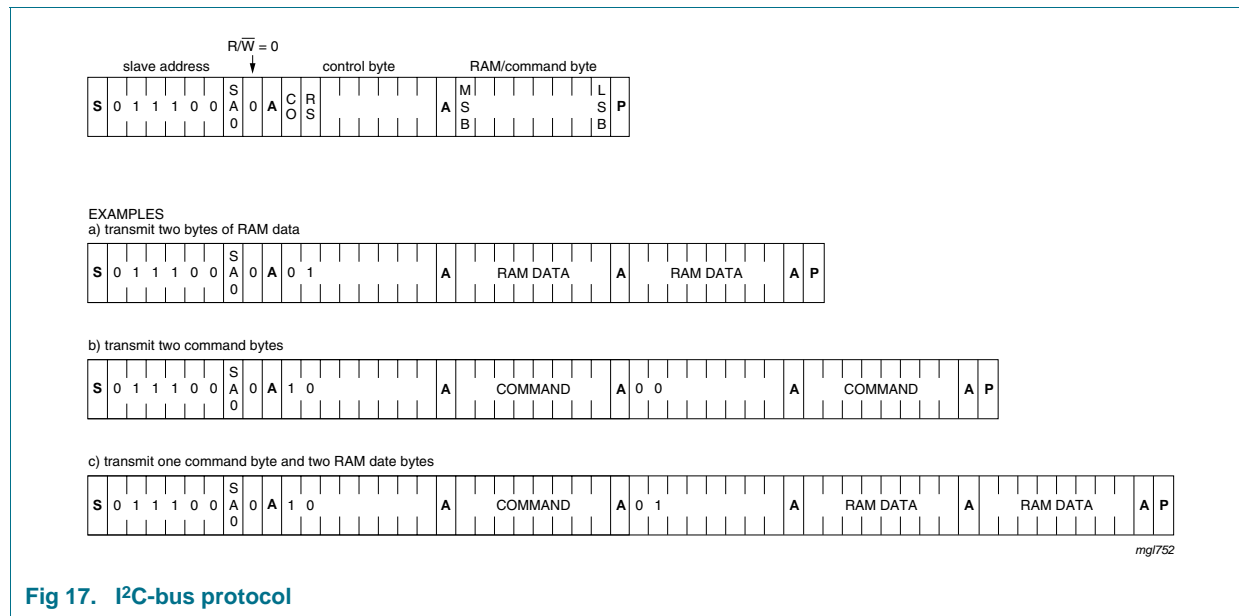

Fig 17. I²C-bus protocol
The I²C-bus protocol is shown in Figure 17. The sequence is initiated with a START condition (S) from the I²C-bus master which is followed by one of two possible PCA85232 slave addresses available. All PCA85232 with the corresponding SA0 level acknowledge in parallel to the slave address, but all PCA85232 with the alternative SA0 level ignore the whole I²C-bus transfer.